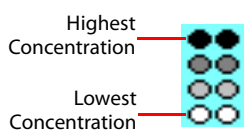

Figure 6-11: Concentration Representation in Dilution Series
3. Select the appropriate dilution orientation: (see Figure 6-11).